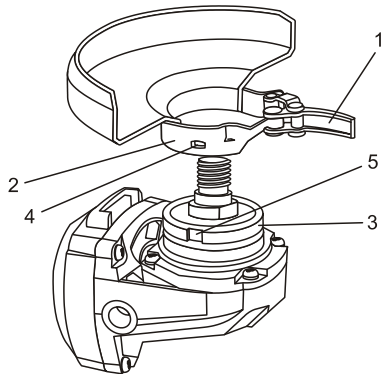

Fig. 2
1. Pull the guard clamp lever (1) outward to allow the guard clamp to expand for installation.
2. Slide the guard clamp (2) over the spindle housing (3) until the blade guard locating detents (4) mate with the grooves (5) in the spindle housing (Fig. 2).
Install the metal cutting disc guard exactly the same as outlined in Fig. 2 above.
2. Remove the disc guard (Fig. 2).